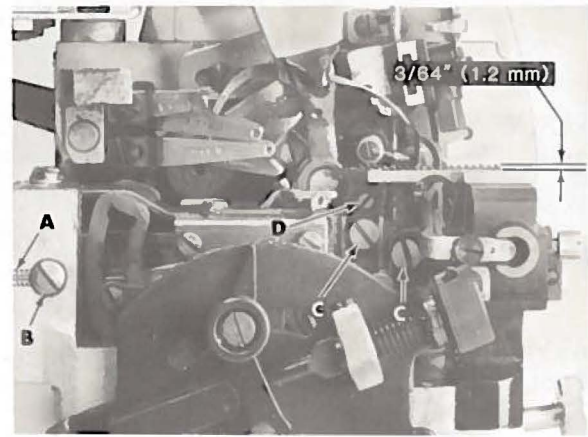

Fig. 14
Rotate handwheel in operating direction until teeth of rising feeds are above the top surface of throat plate. The feeds should be level with the throat plate at this time. With feeds at highest position of travel, their teeth should extend approximately 3/64 inch (1.2mm) above throat plate as shown in Fig. 14.
Loosen lock screw (A, Fig. 14) and rotate tilt adjusting pin (B) as required to level feeds, then tighten lock screw (A).
Loosen feed attaching screws (C) and adjust feeds up or down to obtain proper height above throat plate as shown in Fig. 14, then tighten screws (C).